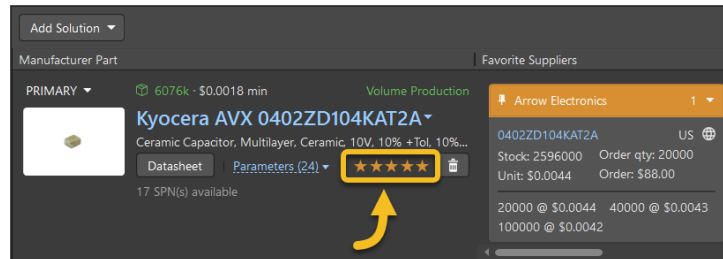

Figure 13. Solution and ranking with 5 stars
31. Back in the ActiveBOM document, select C1. With Step 29.b), you have set 5 Stars to define the ranking for C1, as seen in Figure 13.